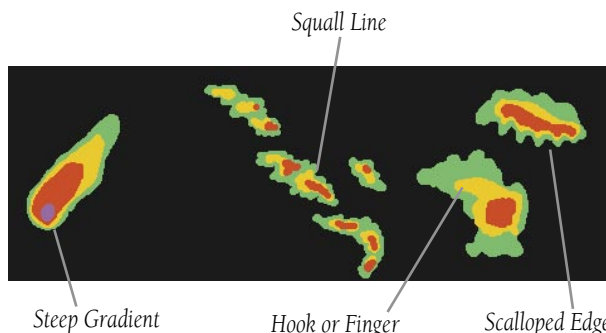

Figure 10-26 Cell Irregularities
Along squall lines (multiple cells or clusters of cells in a line (Figure 10-26), individual cells may be in different stages of development. Areas between closely spaced, intense targets may contain developing clouds not having enough moisture to produce a return. However, these areas could have strong updrafts or downdrafts. Targets showing wide areas of green are generally precipitation without severe turbulence.
Irregularities in the target return may also indicate turbulence, appearing as “hooks”, “fingers”, or “scalloped” edges (Figure 10-26). These irregularities may be present in green areas with no yellow, red, or magenta areas and should be treated as highly dangerous areas. Avoid these areas as if they were red or magenta areas.
- A narrow, finger-like portion (Figure 10-26) extends and in a short time curls into a hook and closes on itself.